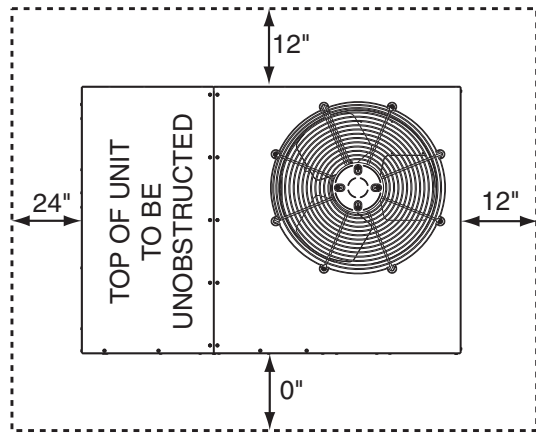

Figure 3. Minimum Unit Clearances
- Sufficient clearance for unobstructed airflow through the outdoor coil must be maintained in order to achieve rated performance. See Figure 3 (page 6) for minimum clearances to obstructions.
Minimum clearances MUST be maintained from adjacent structures to provide room for proper servicing and air circulation. DO NOT install unit in a confined or recessed area that will allow discharge air from the unit to re-circulate into the condenser air inlet, through the coil. See Figure 3 (page 6).